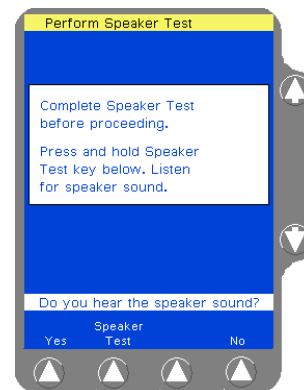

Figure 1 Speaker Test Screen
2. Press and hold the **Speaker Test** soft key until **Yes** and **No** soft keys are displayed (Figure 1). The pump produces sound for as long as the **Speaker Test** soft key is pressed.